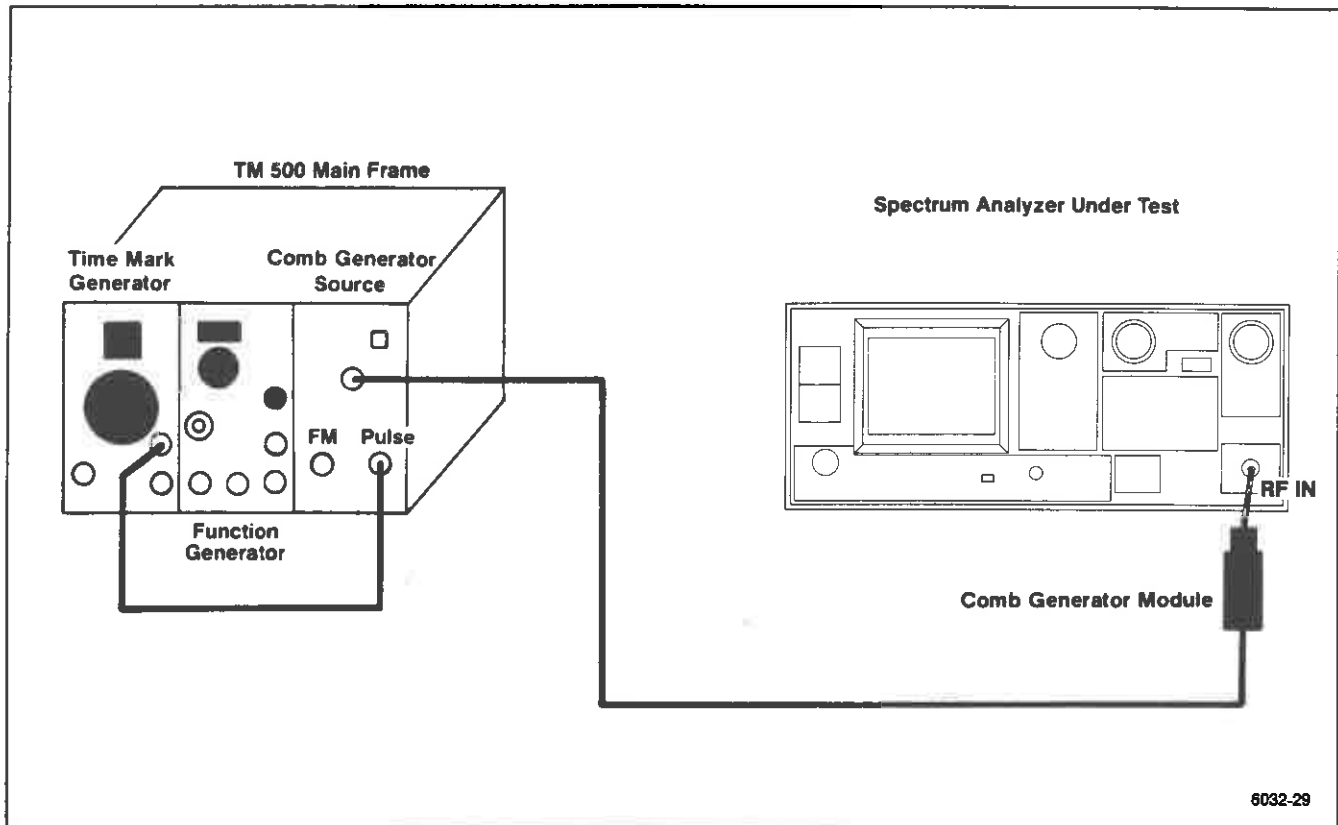

Figure 6-18. 2182 MHz 2nd LO frequency accuracy test setup.
a. Connect the test equipment as shown in Figure 6-18.